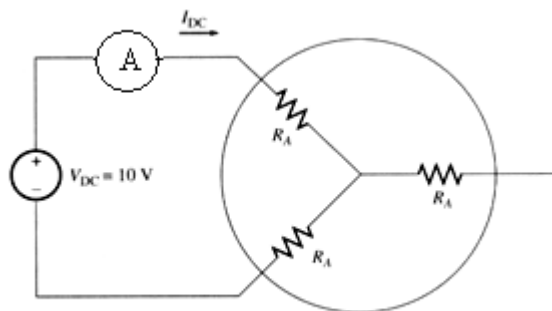

Figure 10.2: DC test
The circuit diagram for DC Test when the stator is connected in Y-connected is shown in Figure 10.2
1. Connect the armature in star connection as shown in Figure 10.2.